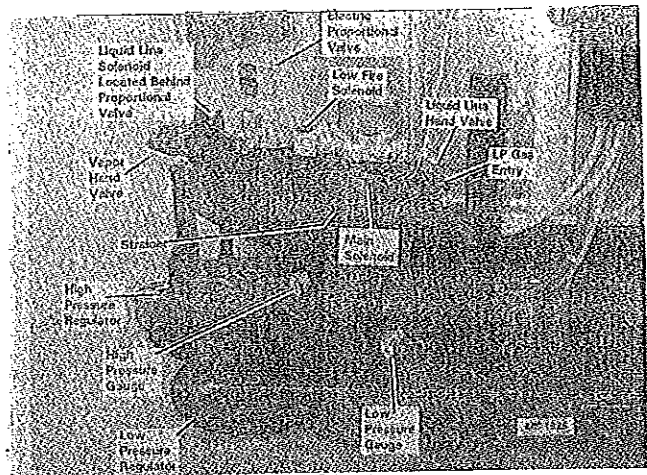

Figure 45 - LP Gas Manifold
- B. Turn the vapor hand valve (Figure 45) 90° to the piping to shut off the gas to the burner.